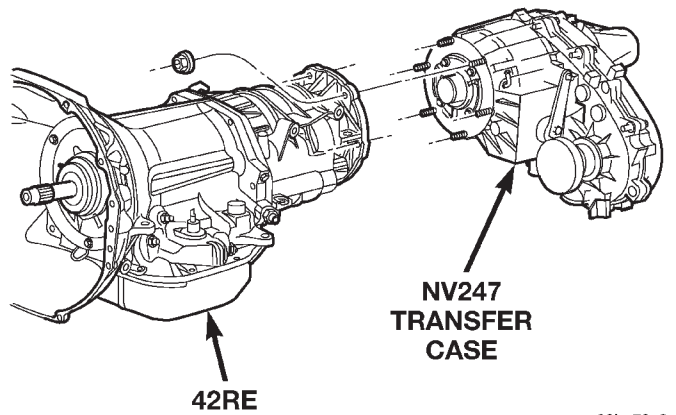
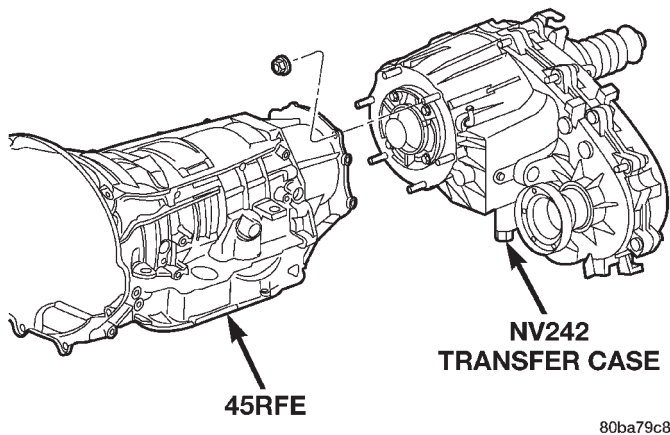

Fig. 19 Remove NV247 Transfer Case
Fig. 20 Remove NV242 Transfer Case
(26) Remove transfer case (Fig. 19) and (Fig. 20).